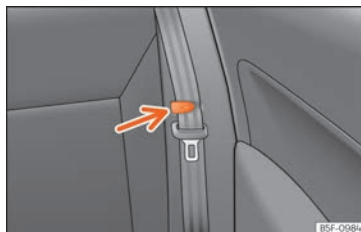

Fig. 133 Rear seat: clip to hold the seatbelt in place.
- Place the side seat belts in the trim clip » **Fig. 133**.